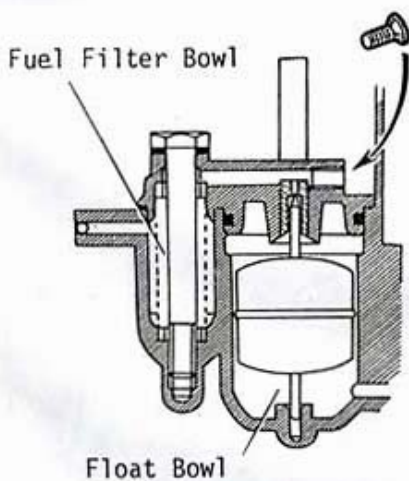

Fig. 4
- Clean the fuel filter, the filter bowl, and the carburetor float bowl (fig. 4).